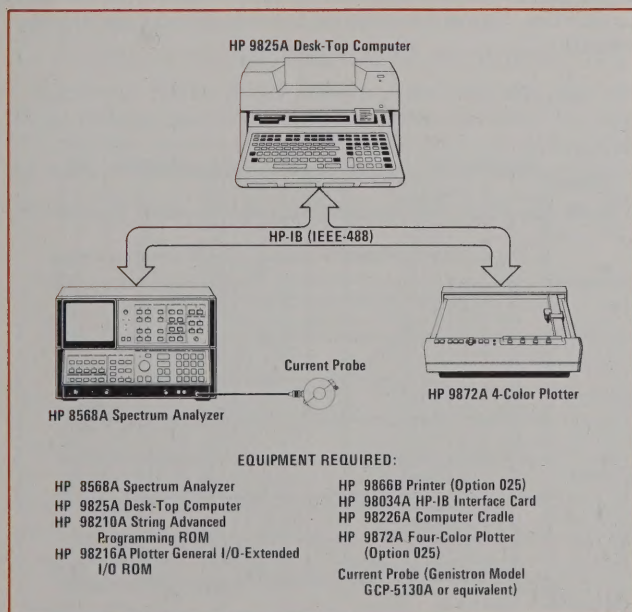

Figure 1. Configuration of an automatic EMI measurement system with the HP 8568A.
The HP 8568A is a general-purpose programmable spectrum analyzer. With appropriate transducers (antennas, or current probes), the HP 8568A can be used to measure broadband as well as narrowband (CW) interference signals. In the configuration used for this application (see figure 1) the HP 9825A desk-top computer serves as the instrument controller and a Genistron current probe is used as the transducer for the spectrum analyzer. Additional peripherals include the HP 9872A 4-color plotter and the HP 9866B thermal printer.